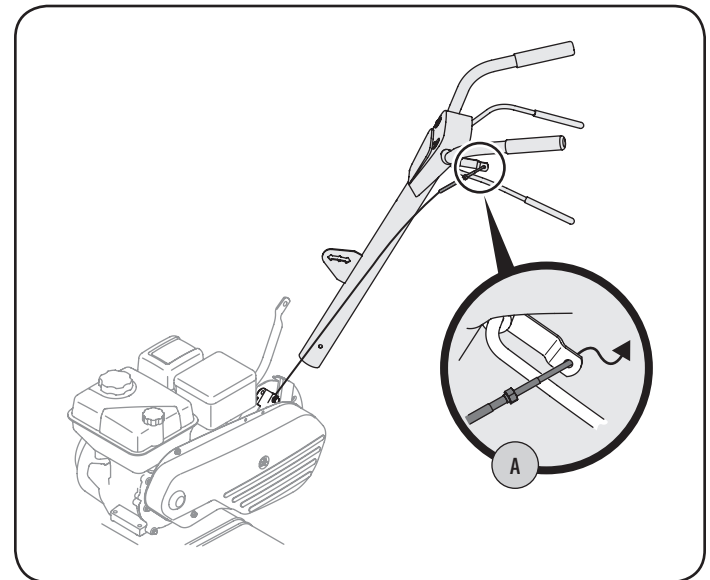

Figure 2
2. Hook the "Z" end of the forward clutch cable (A) into the forward tine engagement lever. See Figure 2.